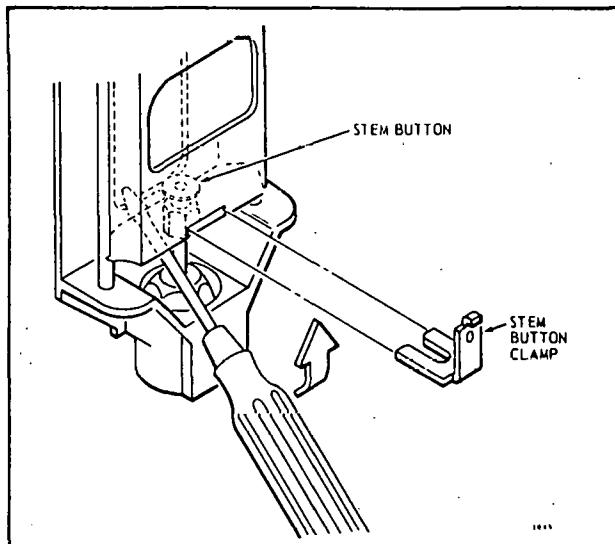

FIG. 5-THE STEM BUTTON CLAMP FASTENS THE VALVE STEM TO THE LINKAGE SLIDE MECHANISM.
1. Place a heavy duty screwdriver under the linkage slide and into the slot in the back of the linkage (Fig. 5).